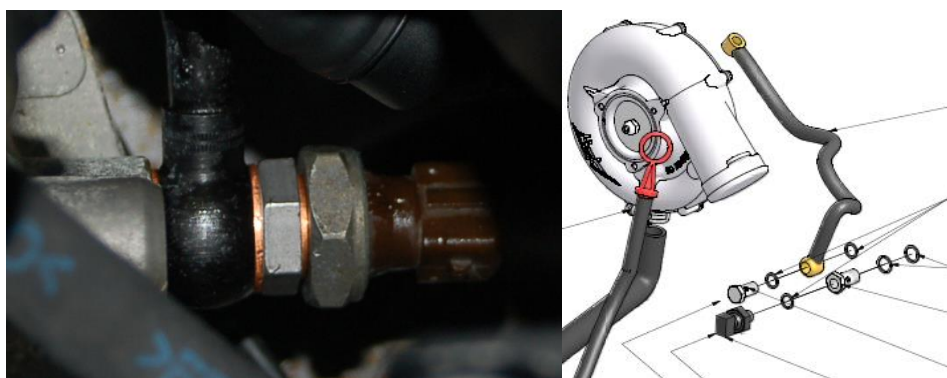

Figure 14
29. Fit the oil supply of the Vanos unit with the banjo bolt adapter (P341-53-40) in the rear thread (engine side) of the oil filter housing and install the pressure sensor into the adapter with the provided gaskets (Figure 14 left). Thereby observe the tightening torque of 20Nm.